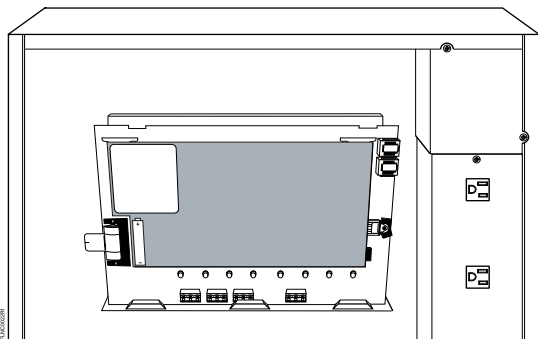

Figure 4. Module Installation.
3. With the LEDs and FLN connectors facing you, slide the bottom of the board at a 10° angle into the bottom guides on the board bracket (Figure 4).